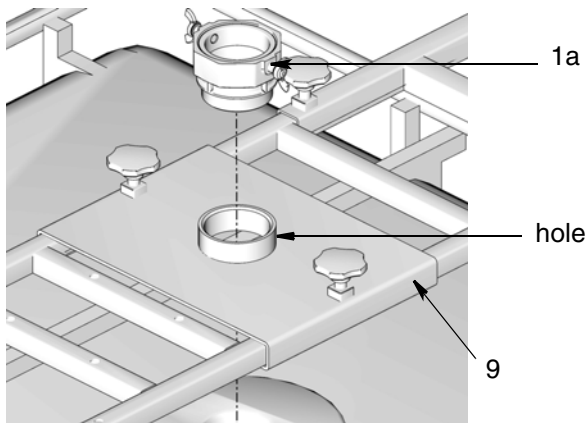

FIG. 10
2. For **NPT** and **BSPT models only**, apply thread sealant to threads of suction tube/hose (3) then install the end of the suction tube/hose into the pump (1) inlet housing (FIG. 10).